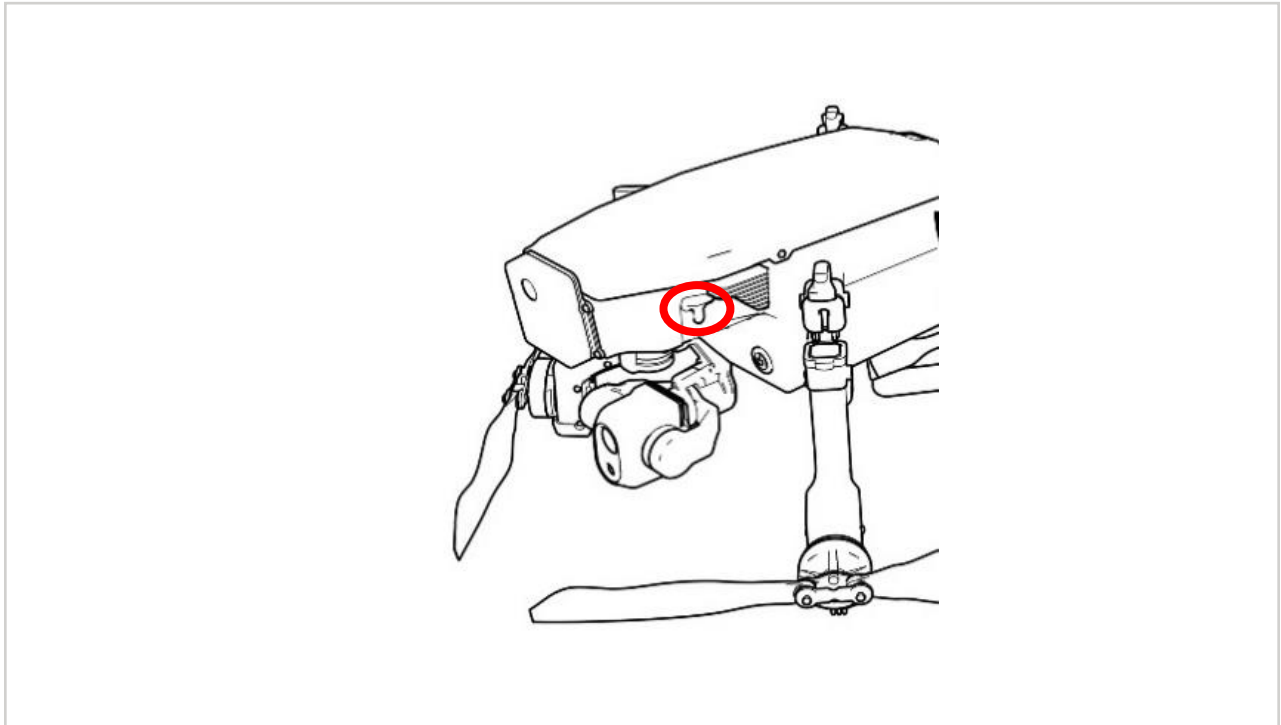

FIGURE 11.A MICROSD CARD SLOT ON AIRCRAFT
2. Uncover the microSD card slot. The cover is a rubber, T-shaped piece attached at the bottom. Pry the top part off and slide it away to expose the micro SD card slot, as shown in Figure 11.A.